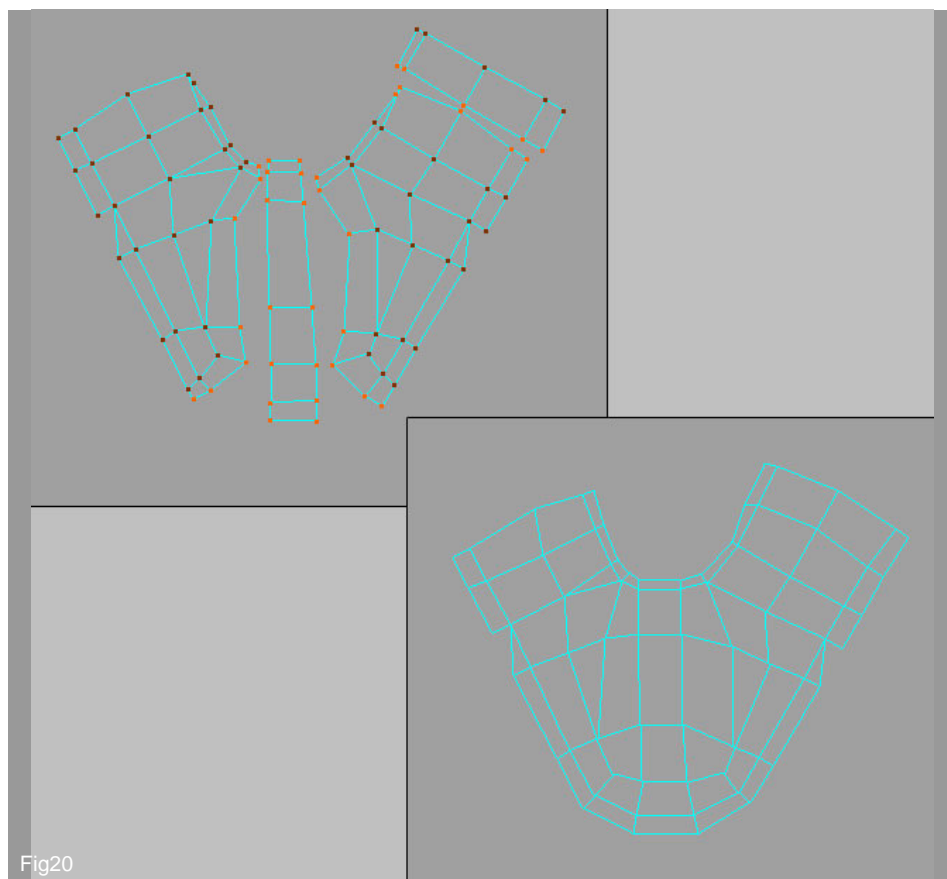

Fig20
20. When the whole foot have been mapped rotate and move the two sides and the back as seen in Fig 20. Weld the verts highlighted in red and make any adjustment to minimize any obvious distortion.